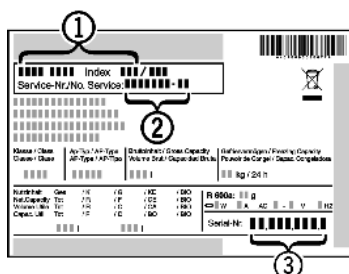

Fig. 23
- ▶ Read the appliance designation *Fig. 23 (1)*, service No. *Fig. 23 (2)* and serial No. *Fig. 23 (3)* off the type plate located inside the appliance on the left-hand side.
- ▶ Notify the customer service, specifying the fault, appliance designation *Fig. 23 (1)*, service No. *Fig. 23 (2)* and serial No. *Fig. 23 (3)*.